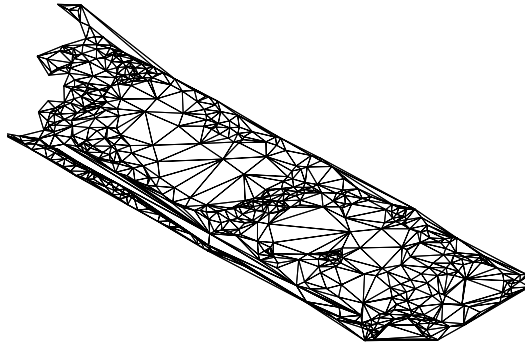

Figure 3-70 The EG surface after pasting the E Street surface
4. Select **E Street** from the dialog box and choose the **OK** button; the dialog box is closed and the **E Street** surface is pasted on the **EG** surface. Civil 3D has now recalculated triangulation and has built the **EG** surface taking breaklines into account. Notice the change of the **EG** surface in the region of added breaklines, refer to Figure 3-70.